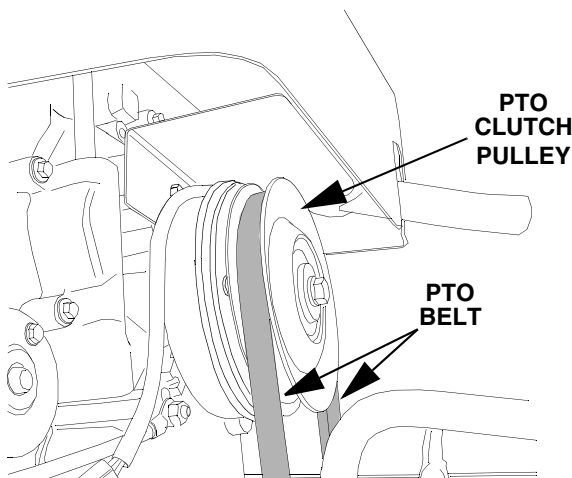

Figure 49
11. Open the tractor hood and install the forward end of the PTO belt onto the PTO clutch pulley on the front of the engine. Ensure that the narrow side of the PTO belt engages the groove of the pulley (See Figure 49).